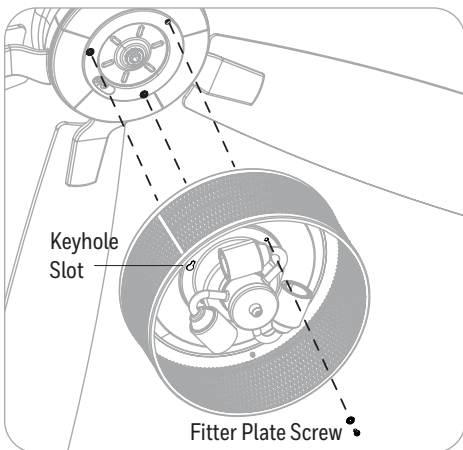

Figure 5.7
7. Lift the light kit and place the two keyhole slots in the light kit over the two loosened fitter plate screws. Turn the light kit counterclockwise and secure it to the fitter plate with the previously removed fitter plate screw. Tighten all three screws (Figure 5.7).